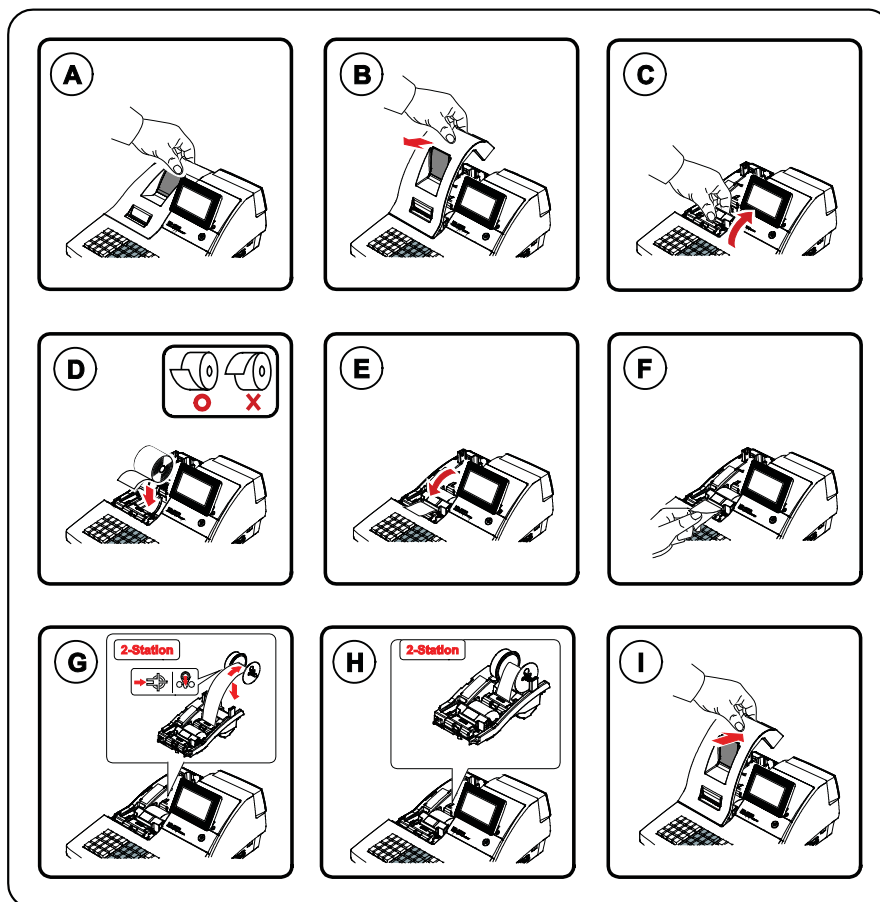

Figure 3-2 Paper Installation
1. Remove the printer cover. (Fig 3-2 (A),(B))
2. Open the housing cover. (Fig 3-2 (C))
3. Insert the paper roll as shown. (Fig 3-2 (D))
4. Be sure to note the correct direction that the paper comes off the roll. (Fig 3-2 (D))
5. Pull out a small amount of paper as shown. Then close the housing cover. (Fig 3-2 (E))
6. Passing the leading edge of the paper through the cutter slot. Tear off the excess paper.(Fig 3-2(F))
7. In case of 2station feed the leading edge of the paper in about 150mm and fold the tip in 20mm. Insert the leading edge of the paper into the slot on the Spool Winding. (Fig 3-2(G))
8. Insert the Spool Winding in 2~3 turns and place it on the Paper Supply. If it loosen, turn to tighten it. (Fig 3-2(H))
9. Replace the printer cover. (Fig 3-2 (I))